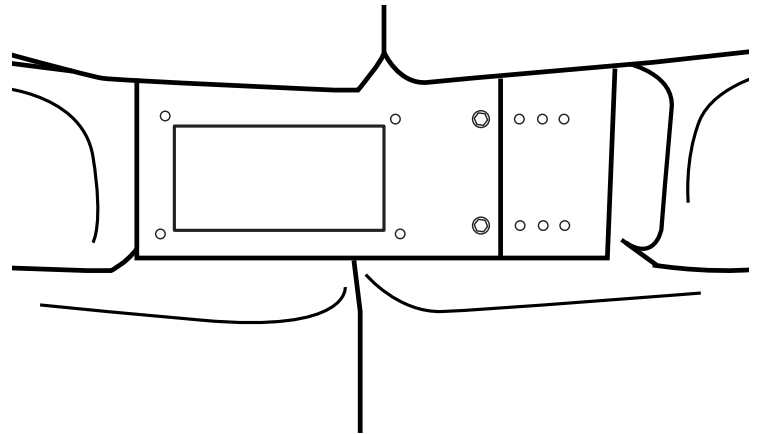

Fig. 5 Front view of control panel installed, ready for valve bracket.
STEP 4: Drill the two holes with a 3/16" concrete drill bit and secure the paver kit control panel with concrete screws. Fig. 5 shows front view.